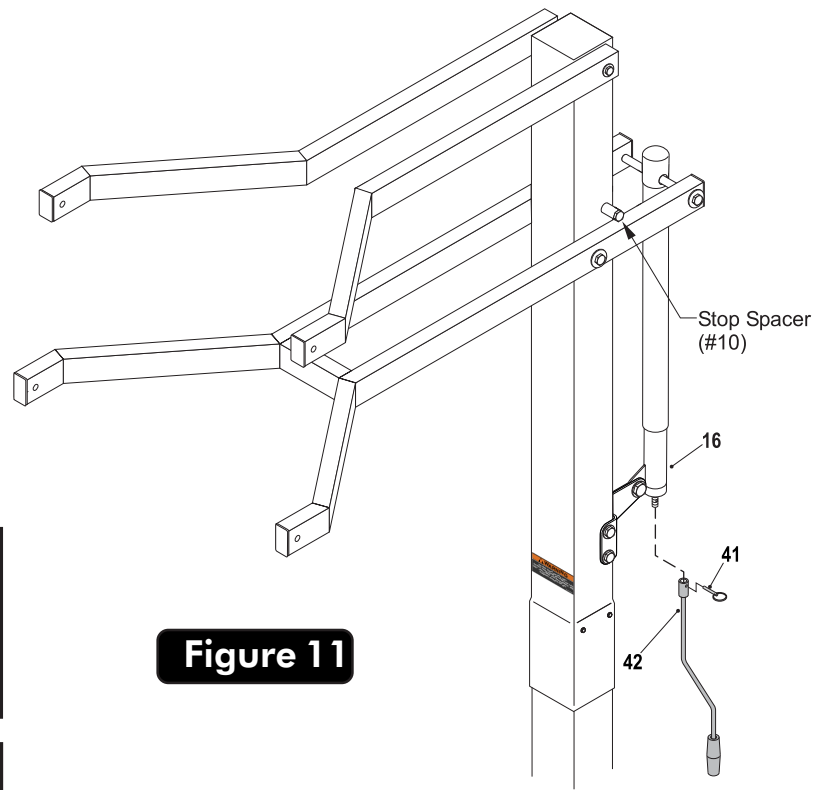

Figure 11
14. Slide Actuator Crank (#42) onto shaft on the bottom of Actuator (#16). Line up hole in shaft with hole in Actuator Crank and insert Pin (#41) to secure. See **Figure 11**.